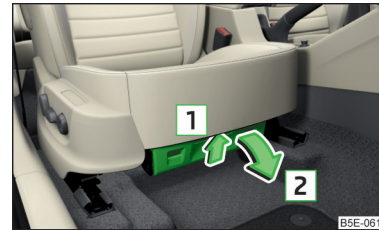

Fig. 107
- ▶ To **open**, pull the handle in direction of arrow **1** pull and open the compartment in the direction of arrow **2** » Fig. 107.